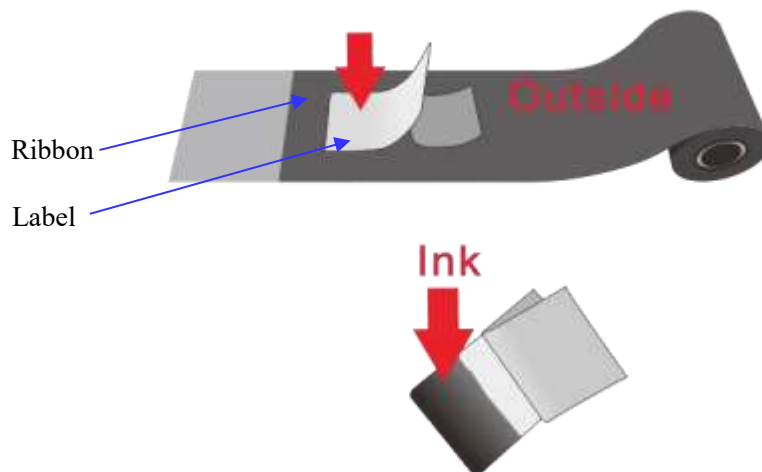

Figure 2-6
3. Stick a label to the outside/ inside of the ribbon to check which side the ink is on. See Figure 2-6.